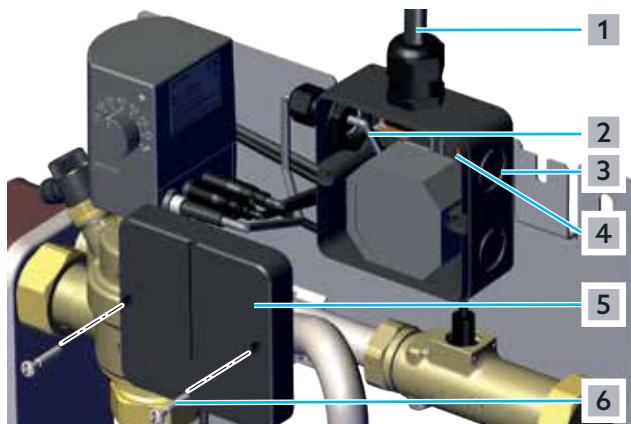

Fig. 13: Connecting the dwelling station electrically
- 1** Loosen the screws ((6) in Fig. 13 on page 20) and remove the cover (5) of the connection box (3).
- 2** Connect the power supply cable (1) to the prepared terminals (4) in the connection box.